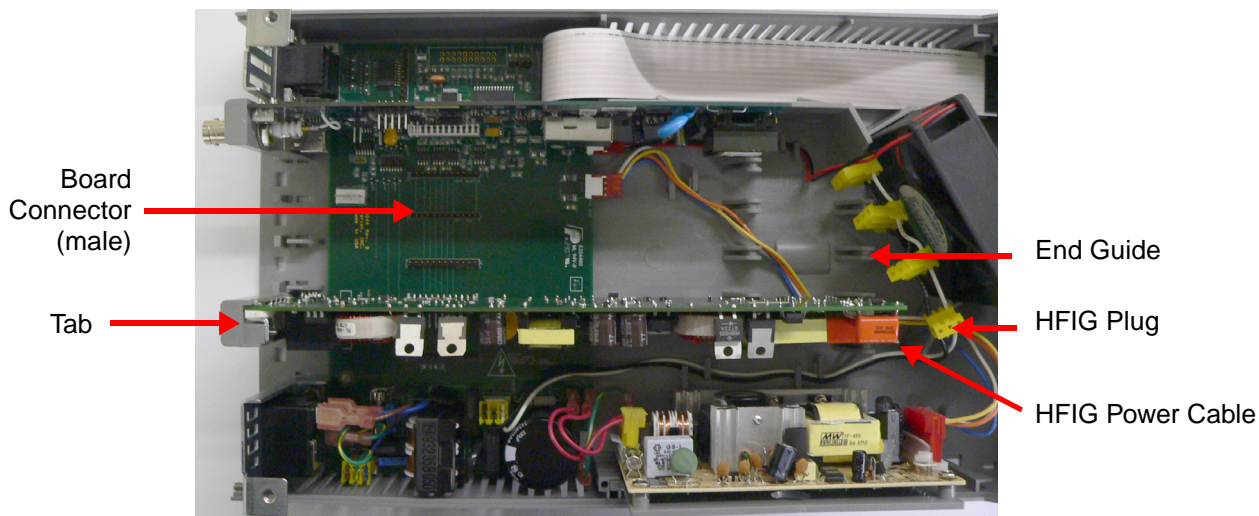

Figure 1: End Guide and HFIG Connector
3. Lift the sensor board by the tab at the rear panel (Figure 1: End Guide and HFIG Connector). Once the board is disengaged from the board connector, pull the board out of the end guide.
- a. Place the end of the board into the end guide (Figure 1: End Guide and HFIG Connector).